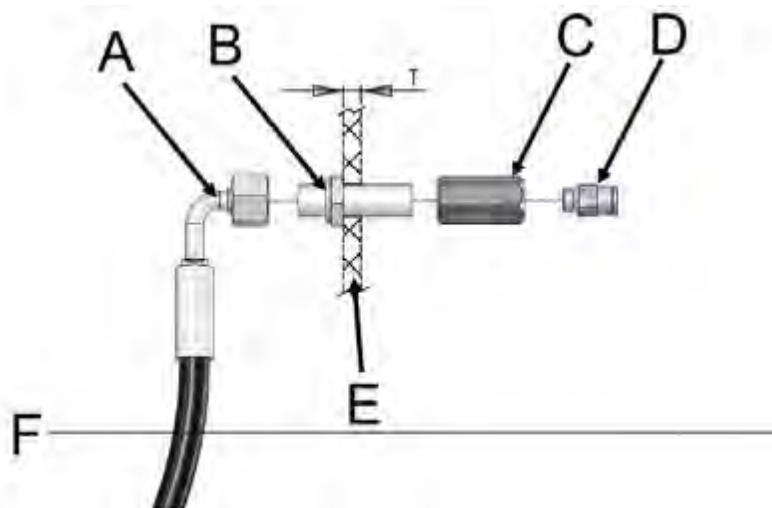

Figure 20. Installing the external lubrication hose for the rear bearing
The external lubrication hose for the rear bearing is installed in accordance with figure 20. Please note that points A and B in figure 20 are located outside the boat, while points C and D are located inside the boat.
3. Place the lead-in connector (figure 20, point B) in the drilled hole in accordance with figure 20 and seal it with sealing compound (such as Sika291i).
4. Tighten connector C in figure 20 to the lead-in connector.
5. Attach the lubrication hose (figure 20, point A) to the lead-in connector and tighten connector D to connector C in accordance with figure 20.
6. Attach the grease hose to the connector on the transom of the boat (figure 20, point D).